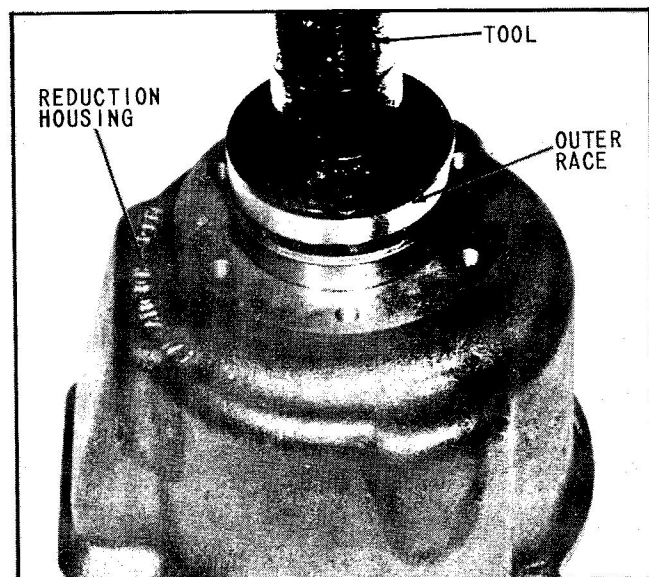

Fig. 65 Press Race into Housing
8. Press bearing outer race into reduction housing and seat against shoulder, (Fig. 65).